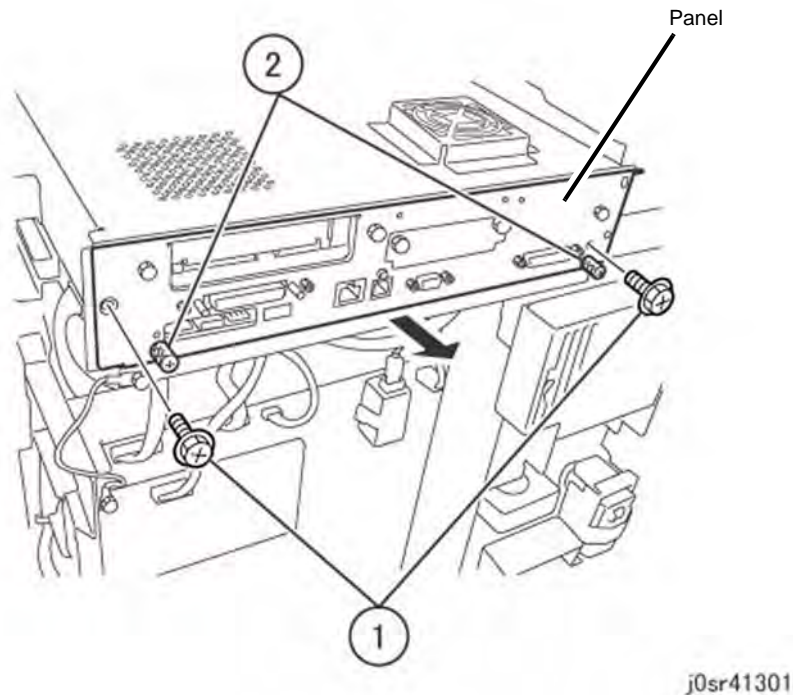

Figure 1 Removing ESS PWB Assembly
2. Remove the ESS Chassis Assembly (Figure 1).